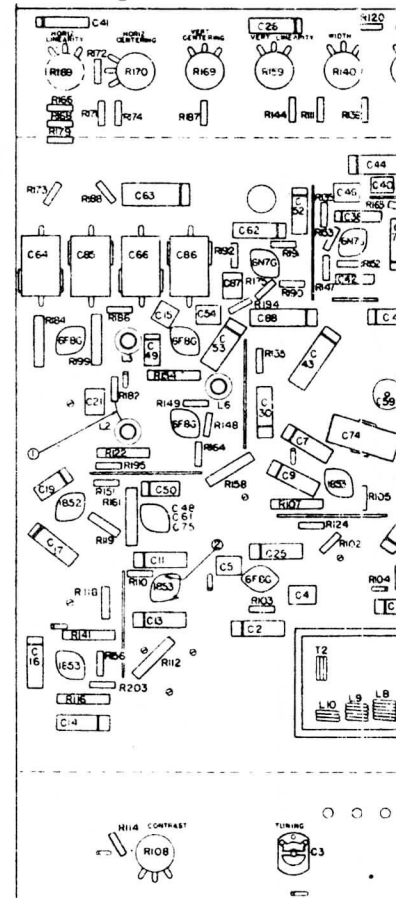

Fig. 1. Chassis Model HM-185
5. Depress the #1 push-button (heaters should be on) and adjust sweep and sync controls on scope to give a curve similar to Fig. 1.